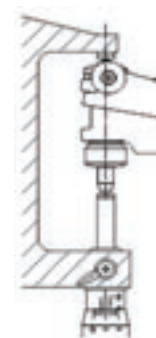

Fig. 4
6. Make sure to perform the initial setting before starting measurement. To do this with an outside micrometer, keep the micrometer in the vertical orientation and position the anvil on the spindle as shown. (Fig. 4)